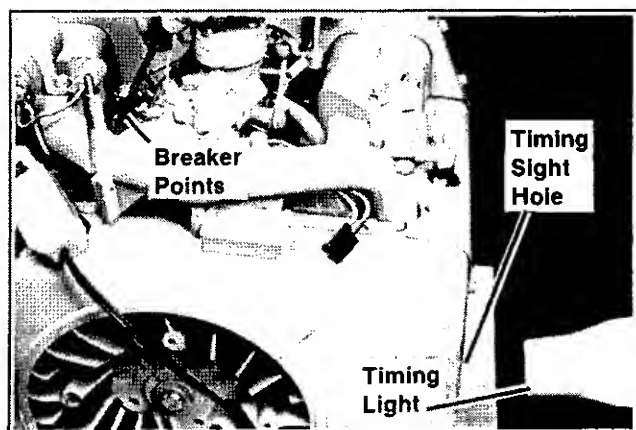

Figure 6-7. Timing Light Method
5. Start engine, run at 1200-1800 RPM, aim timing light into sight hole—light should flash just as “S” mark is opposite the roll pin in the cylinder barrel (see Figure 6-7).